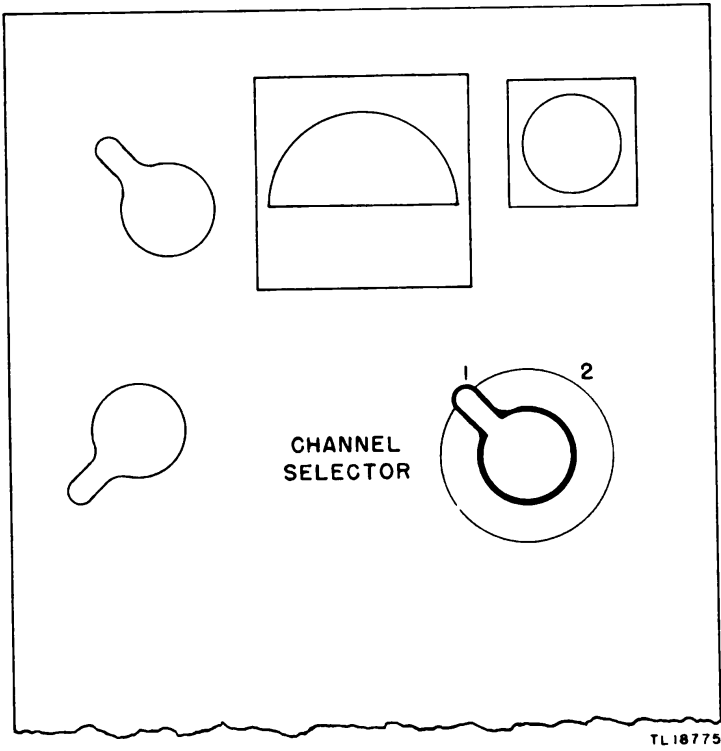

Figure 39. CHANNEL SELECTOR switch.
c. CHANNEL SELECTOR Switch (fig. 39). The CHANNEL SELECTOR switch has two positions, giving a selection of two preset channels in the 100- to 156-mc range.